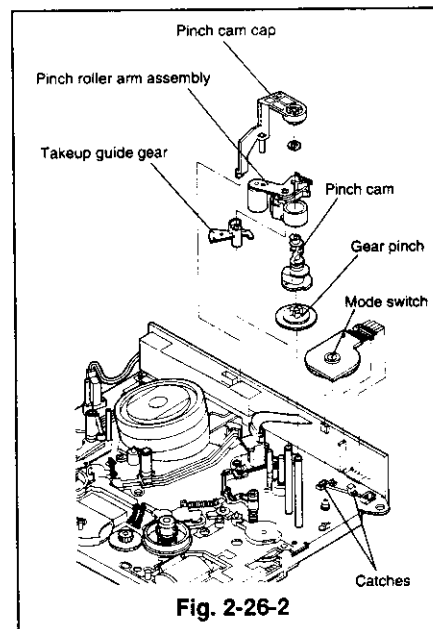

Fig. 2-26-2
- 3 Unfasten two catches holding the mode switch. (Refer to Fig. 2-26-2.)